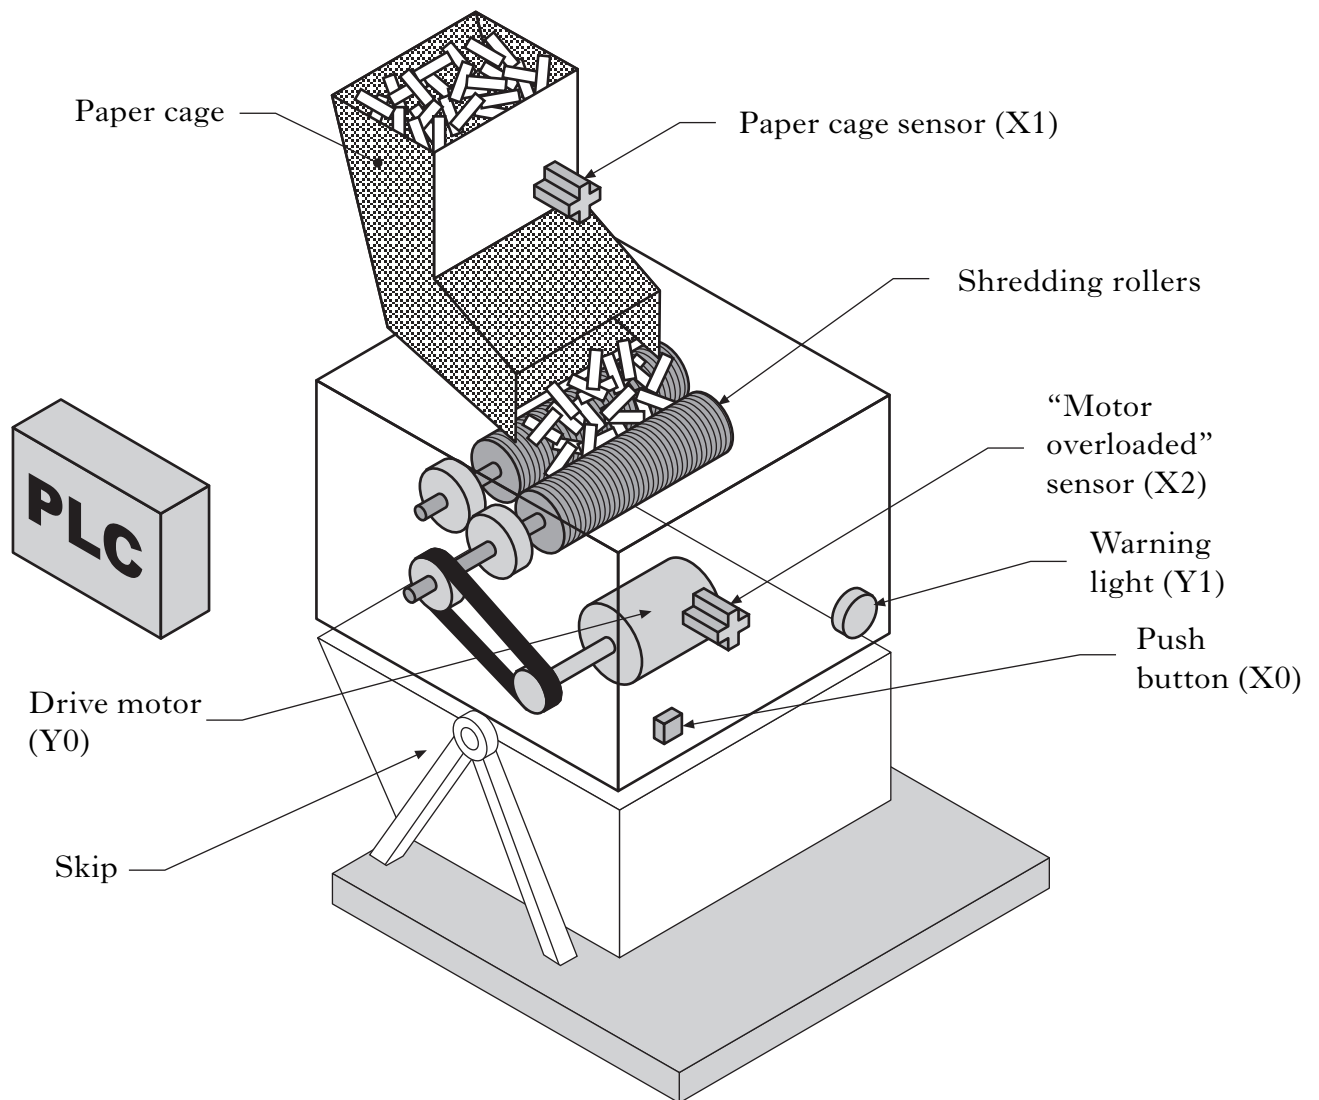

Figure Q13
13. Figure Q13 shows a PLC controlled industrial shredder for paper recycling. Paper is loaded into the “paper cage”. It then passes through the “shredding rollers” and the shredded paper falls into a skip.